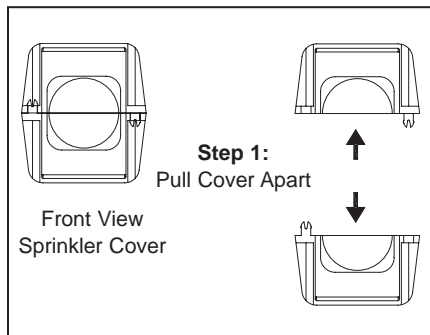

Figure 1
- a. Separate the two halves of the plastic cover, by pulling it apart (Figure 1).